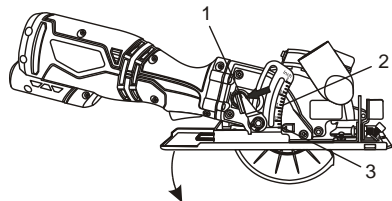
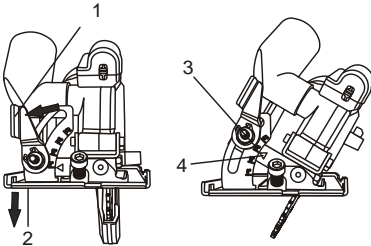

Fig. 2
Fig. 3
1. Rotate the cutting depth locking lever (1) counter clockwise (Fig. 2).
1. Rotate the bevel angle locking lever (1) counter clockwise (Fig. 3).
2. Rotate the sole plate (2) to the desired angle.
2. Set the depth (Fig. 2) and set the bevel angle at 0° (Fig. 3).